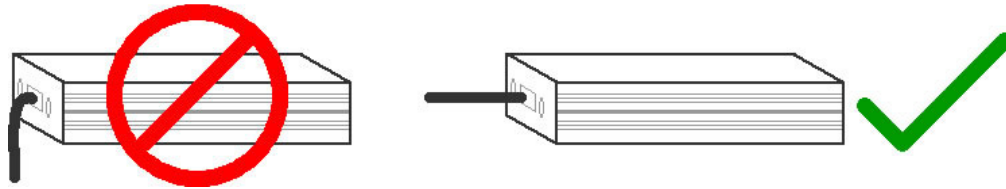

Figure 3
4. Contigo recommends that installers take extra precautions to ensure that the normal installation of the wiring harness and beacon does not cause undue stress on the wires where they meet the connector (see Figure 3 and Figure 4 below).
Ensure that the Beacon and Wiring Harness are installed without bending or flexing the wiring harness to cause undue stress on the wires as they enter the connector, as shown in Figure 3 below.